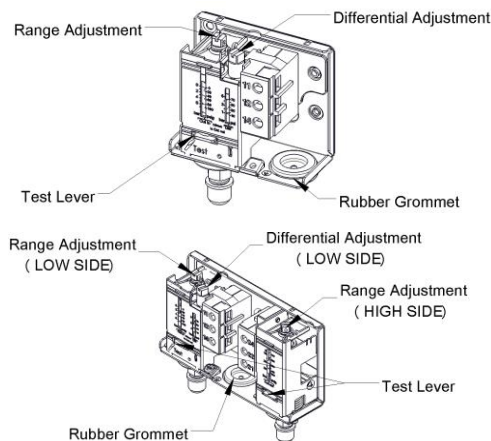

Figure 2
- The cables/wires connected to the electrical mini-switch (SPDT Contacts) can be fed through the rubber grommet indicated in **Figure 2**.
SETPOINT ADJUSTMENT (Figure 2)
TEST LEVER (Figure 2)